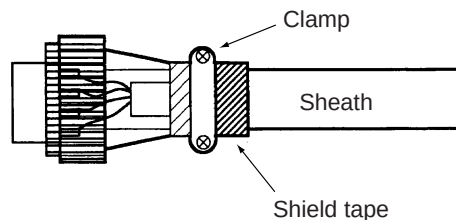

Figure 2-3 SRCN6A25-24P connector fabrication
2. Unfasten four screws (M3X6) to dismount panel ② shown in Figure 2-3. These screws may be discarded.